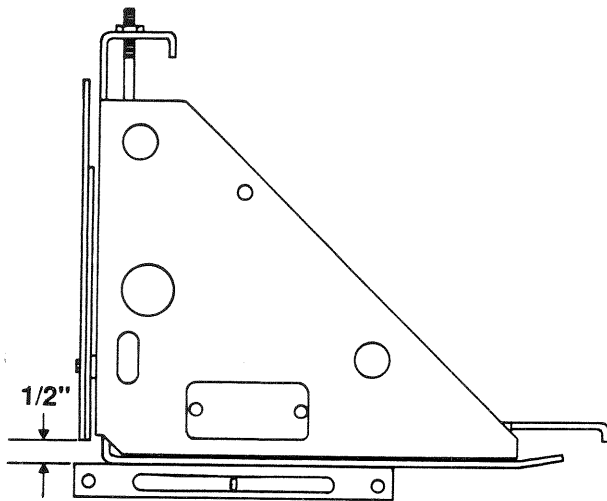

Figure 3
(1) Use a straightedge to check position of strike-off plate in reference to screed bottom. (**Figure 3**)
(2) Adjust strike-off plate initially to 1/2 inch above screed bottom for normal mixes. For special conditions, the height may vary.